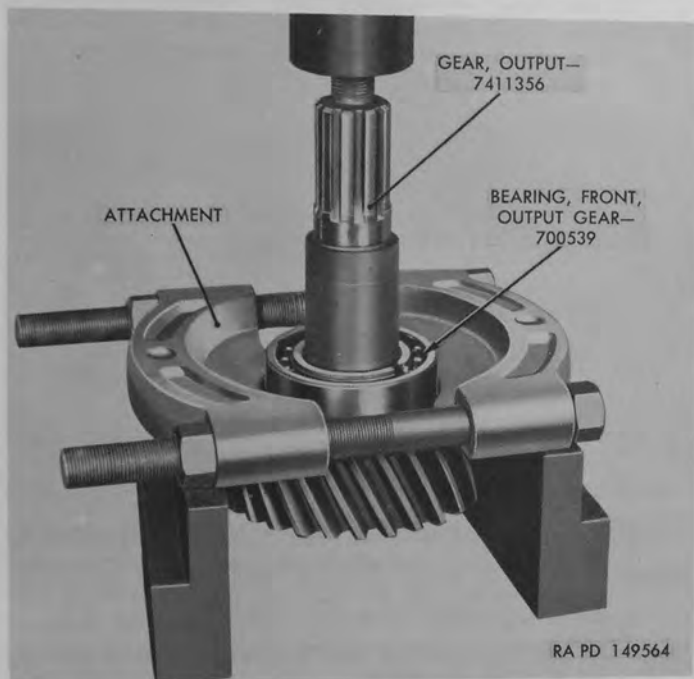

Figure 64. Using arbor press and attachment 41-A-345-328 (part of puller set 41-P-2905-60) to remove output gear front bearing.
b. Assemble attachment 41-A-345-328 (part of puller set 41-P-2905-60) at output gear front bearing (F). Position output gear and bearing assembly with attachment in arbor press as shown in figure 64 and remove bearing from gear.